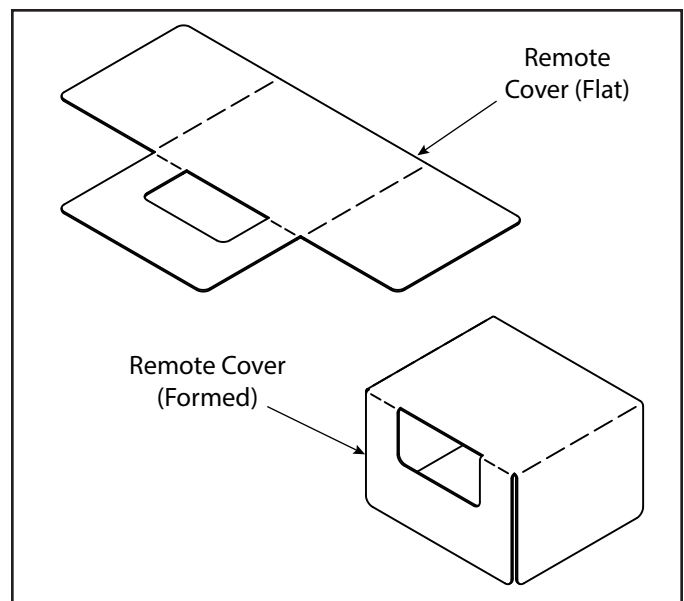

Figure 7.3 Remote Control Cover
- A Remote Control Cover is also included. Carefully bend the cover as shown in Figure 7.3, and place cover over the top of the Remote Control.